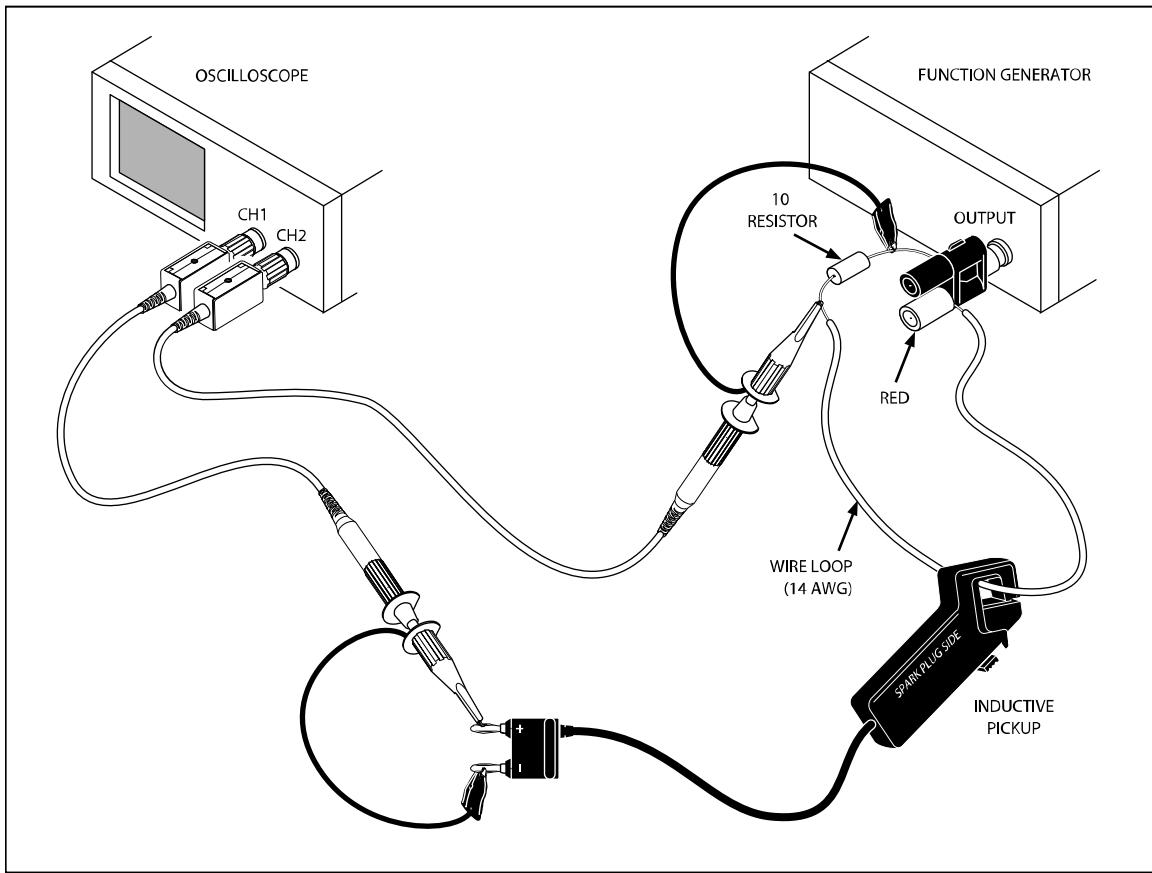

Figure 4. Setup for Inductive Pickup Test
2. Connect the other end of the 10 Ω resistor to the terminal LOW output of the function generator. Place the other end of the 14-AWG wire to the HIGH output of the function generator. See Figure 4.
4. Clamp the inductive pickup to the wire loop on the HIGH side of the resistor as shown in Figure 4.